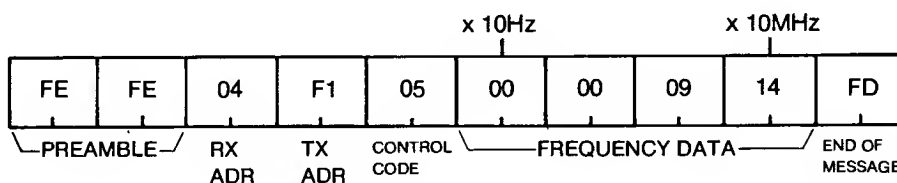
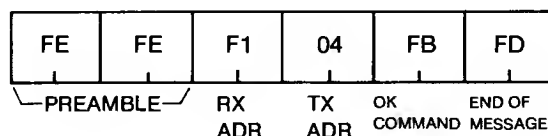

Fig. 18
Fig. 19
(1) The controller can set the frequency of the IC-735.
(2) When the controller sends the packet in Fig. 18, the IC-735 returns the packet shown in Fig. 19.